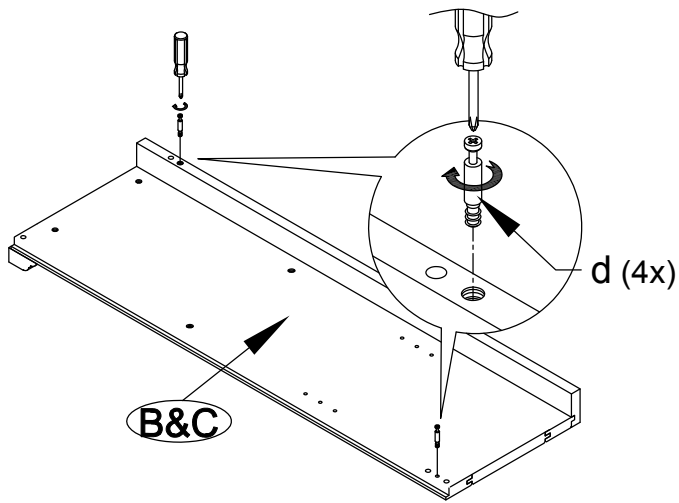

Figure 1.
- 1** Insert Four (4) Cam Bolt(d) to Side panel(B&C). See Figure 1.